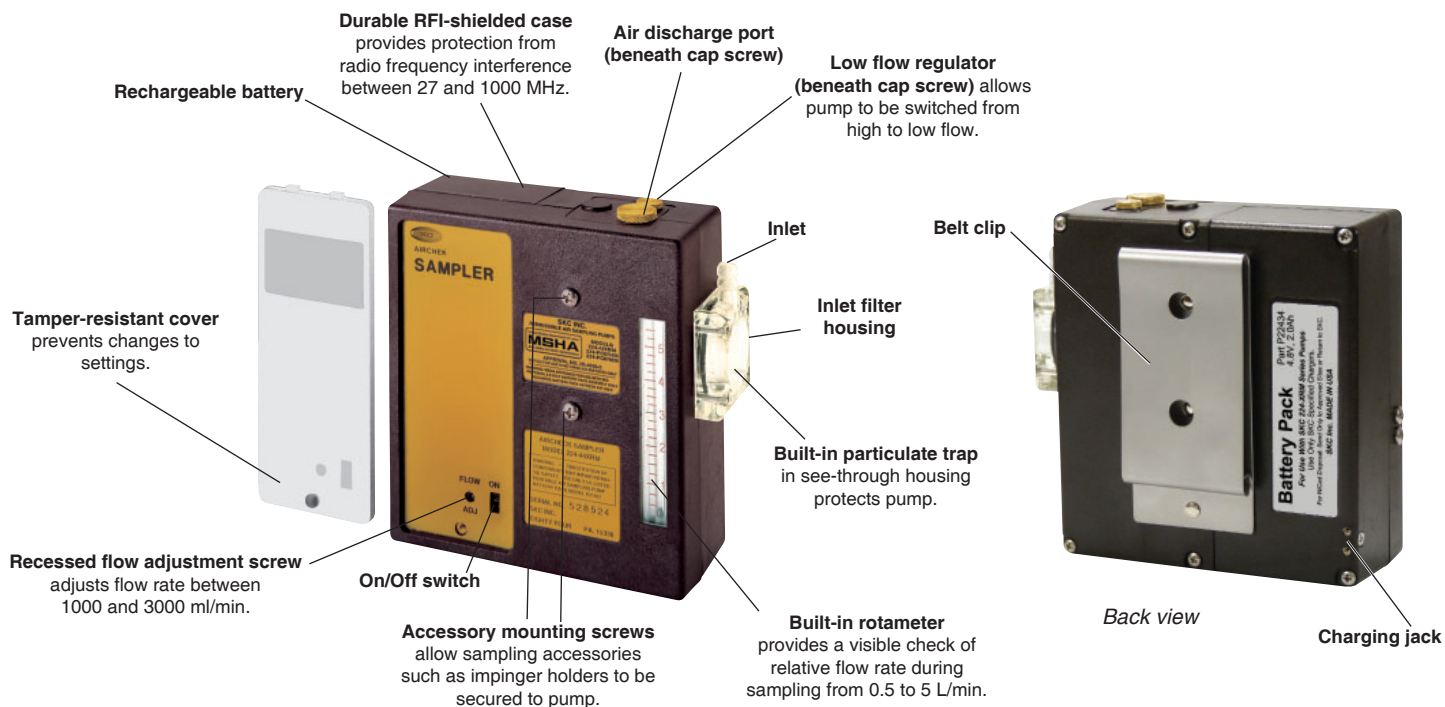

Figure 1. Front and back views of 44XRM Universal Sample Pump
The 44XRM Universal Sample Pump (Figure 1) is a constant flow (from 5 to 3000 ml/min) air sampler suitable for a broad range of applications. It is ideal for industrial hygiene studies as well as environmental testing.
3. Insert the charging plug end of the cable into the jack on the back of the pump's battery pack (Figure 1).
Turn Pump Power On/Off (Figure 1)
1. To ensure the pump is set for high flow, remove the cap screw (*Figure 1*) covering the regulator valve and turn the exposed screw **clockwise** until it stops. Do not overtighten. *See right.*
4. Set the flow rate using the flow adjustment screw (*Figure 1*) until the flowmeter indicates the method-specified flow rate. Take a minimum of three readings and record the average flow rate, as per OSHA/NIOSH instructions.
- b. **When using impingers, an in-line trap (SKC Cat. No. 225-22 or 225-22-01) is required to prevent fumes from accidentally being drawn into the sampler.** Place the in-line trap between the pump and the impinger. Mount the impinger and trap to the face of the sampler using the accessory mounting screws (Figure 1) or place them in a holster at the worker's waist.
3. Start sampling by turning on the pump using the on/off switch (Figure 1). Record the start time.